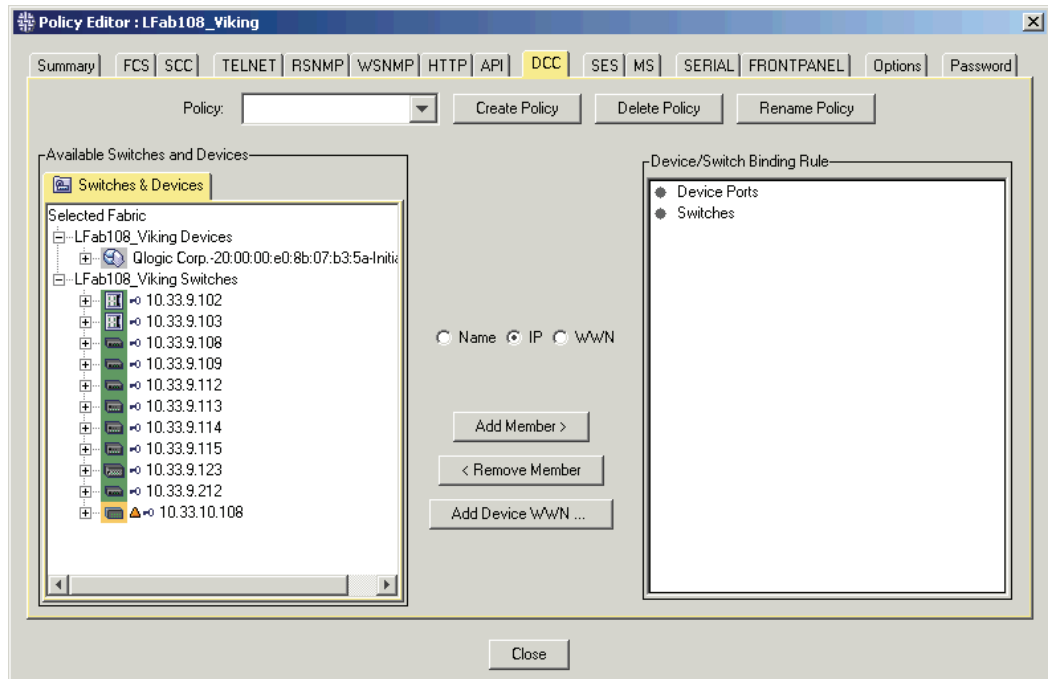

Figure 17-7 Configuring the DCC Policy
2. Click the **DCC** tab (see Figure 17-7 on page 17-10).